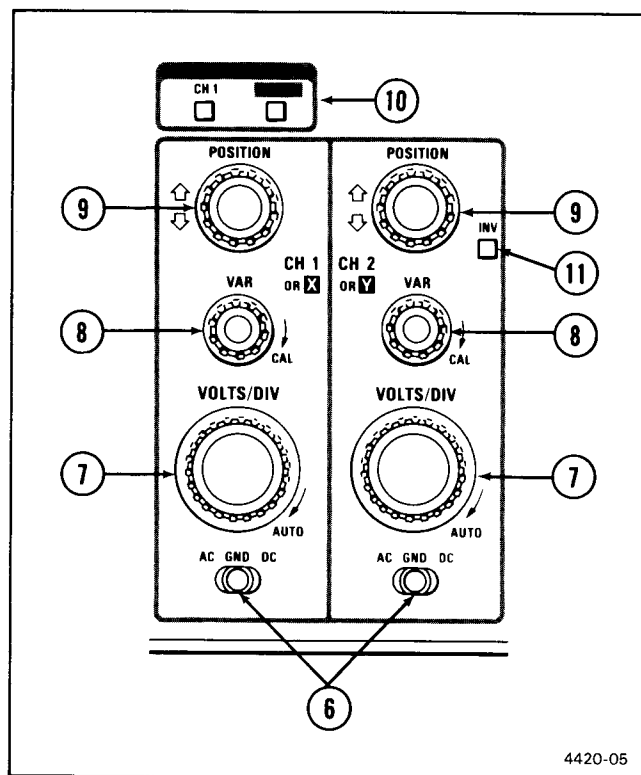

Figure 2-3. Vertical controls.
Refer to Figure 2-3 for the location of items 6 through 11.